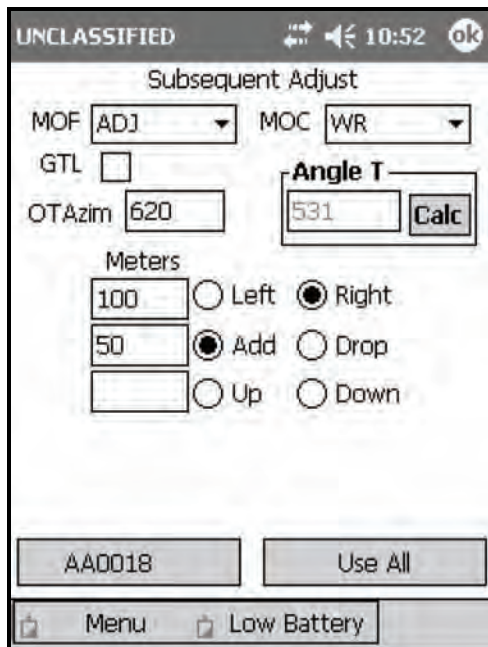

Figure 18-93. Search and Traverse: first adjustment.
(18) Conduct the adjustment phase of the mission in the same manner as a conventional manual mission (Figures 18-93 and 18-94).